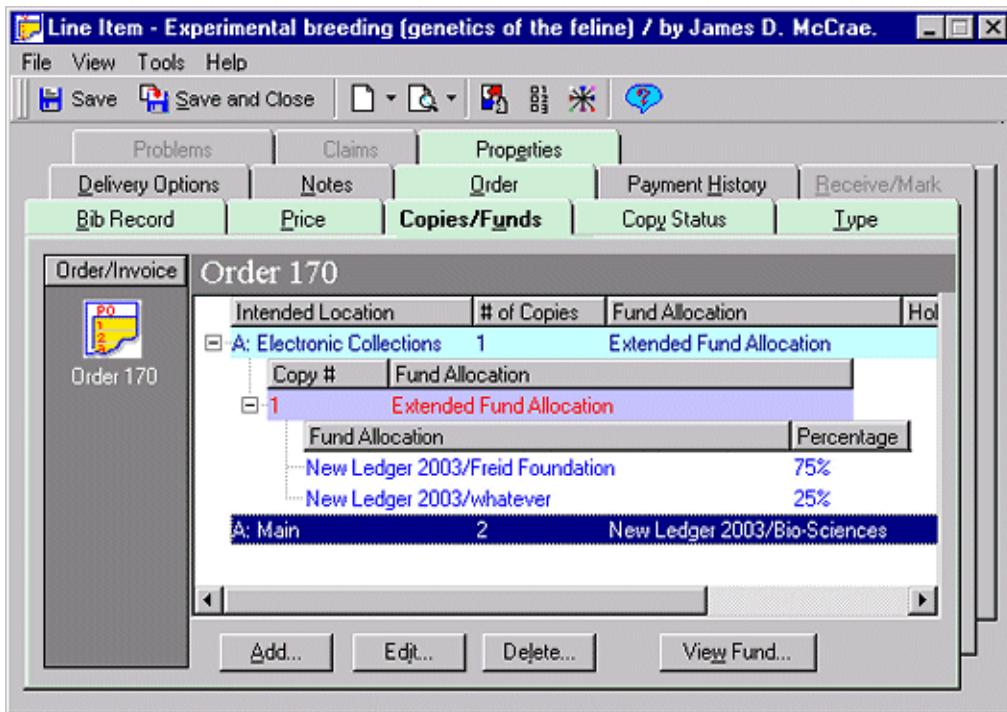

Figure 6-33. Copies/Funds tab, hierarchy
5. If your entries are complete and you will not be using the Extended Fund Allocation feature, click the **Close** button to return to the **Copies/Funds** tab of the **Line Item** dialog box (see Figure 6-33). Otherwise, continue with Procedure 6-12, Editing extended fund allocations or Procedure 6-13, Adding an extended fund allocation.
Result: The fund's allocation is changed. The **Copies and Funds** dialog box closes, and all copies and funds for the item display in a hierarchical structure on the **Copies/Funds** tab of the **Line Item** dialog box (see Figure 6-33).
Result: An extended fund allocation is added to a copy. The **Copies and Funds** dialog box closes, and all copies and funds for the item display in a hierarchical structure on the **Copies/Funds** tab of the **Line Item** dialog box (see Figure 6-33).
The copy and fund information displays in a hierarchical structure on the **Copies/Funds** tab (Figure 6-33) after fund allocations have been completed.